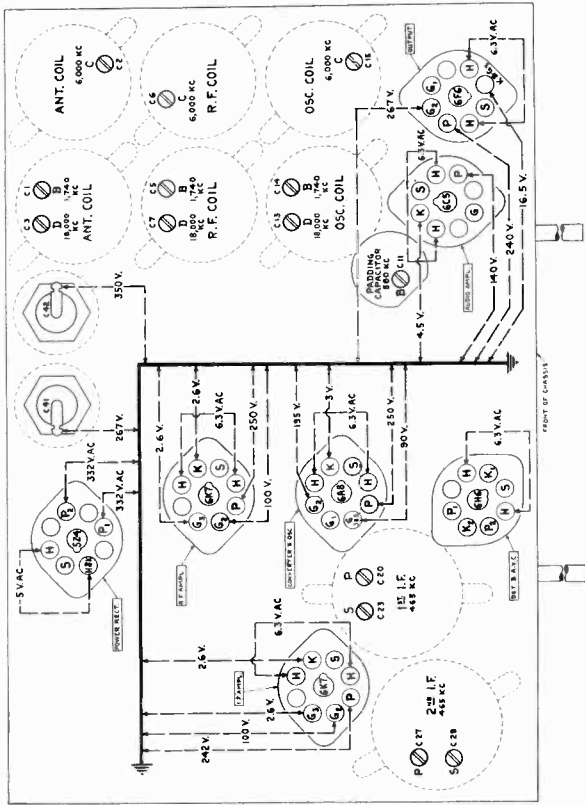

Fig. 5. Trimmer Locations and Socket Voltages
- The location of all trimmer capacitors, as well as socket voltages to chassis, is shown in Fig. 5.